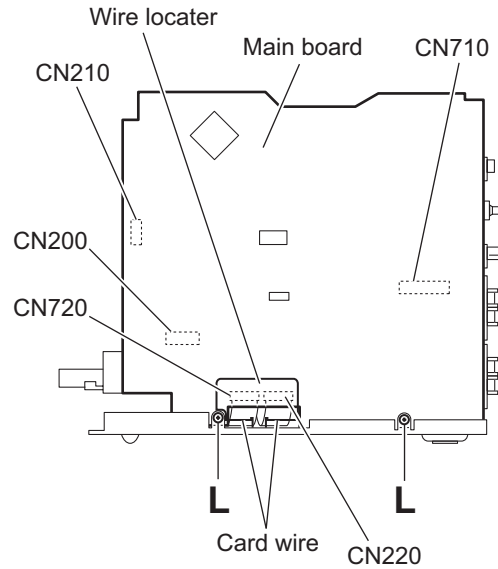

Fig.17
3.1.10 Removing the main board (See Fig.17)